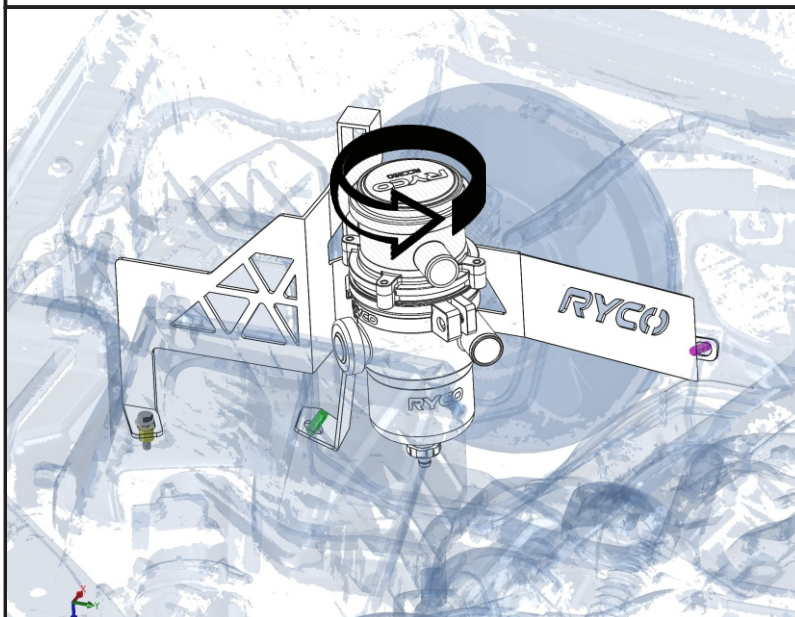

FIG. 11b CATCHCAN FITMENT
11. Proceed to rotate the RCC351 to match the alignment shown in FIG. 11b, ensuring clearance to the Engine Airbox.